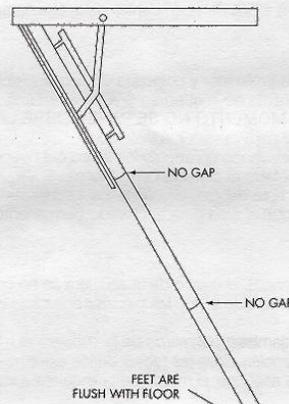

FIGURE 8 - CORRECT SETUP
**WARNING:** The bottom section must fit flush with the floor. Failure to cut properly could result in undue stress on the component parts of the stairway, resulting in serious injury (see FIGURES 8 and 9).